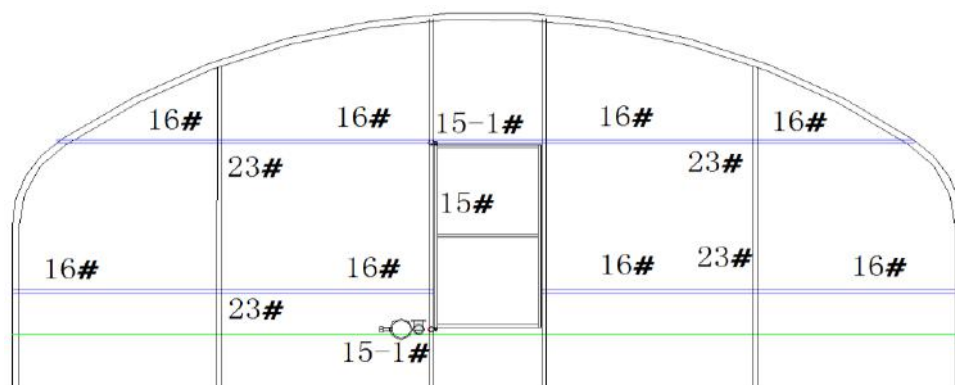

Figure 12
c. Install the Upper vertical tube and Lower vertical tube (No. 6 & 7) according to the width of the Door (No. 15). Fix the Door onto the Door base (No. 15-1), as shown in Figure 12.